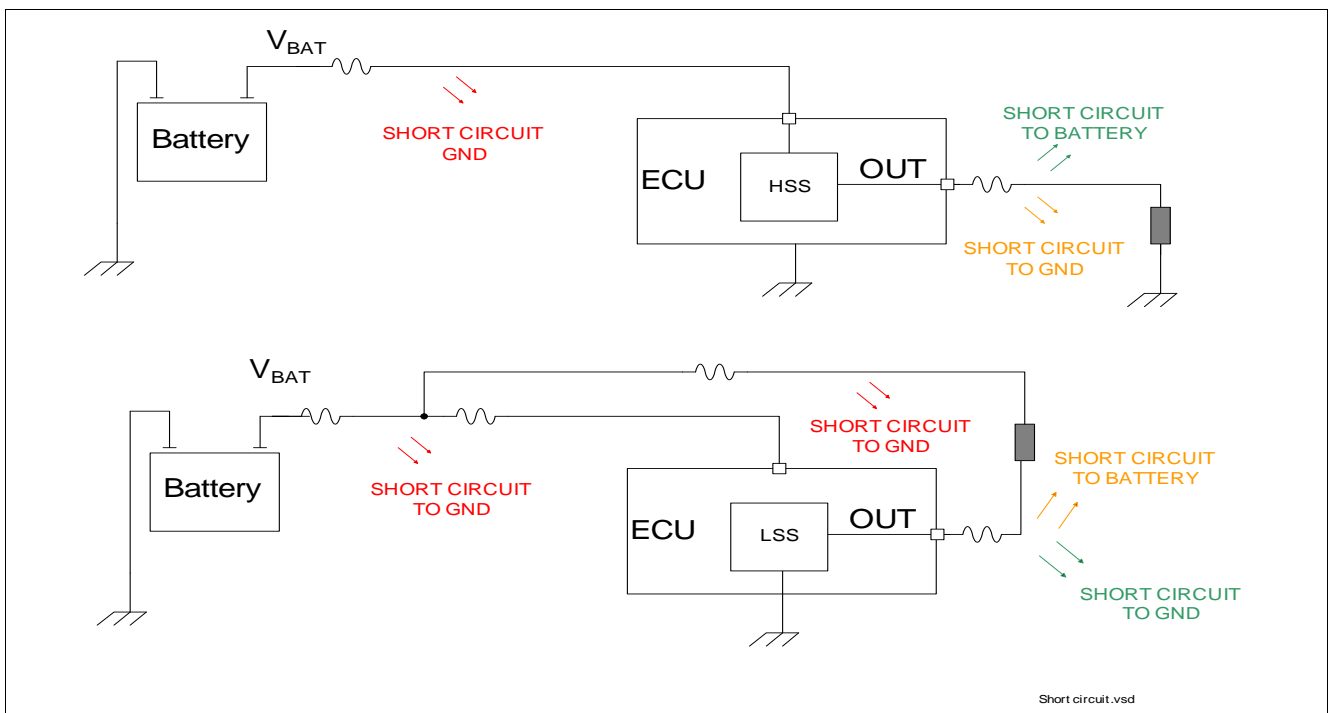

Figure 3 Short Circuit Possibility
A Short Circuit (SC) hazard is more likely to occur to GND than to the battery voltage V_{BAT} , thus switching from the high side is considered safer than switching from the low side. Figure 3 represents all possible short circuits in a truck electrical system. The SC in green will result in the load being permanently ON load. The SC in orange will result in stress to the switch. The SC in red will place stress on the complete vehicle electrical system